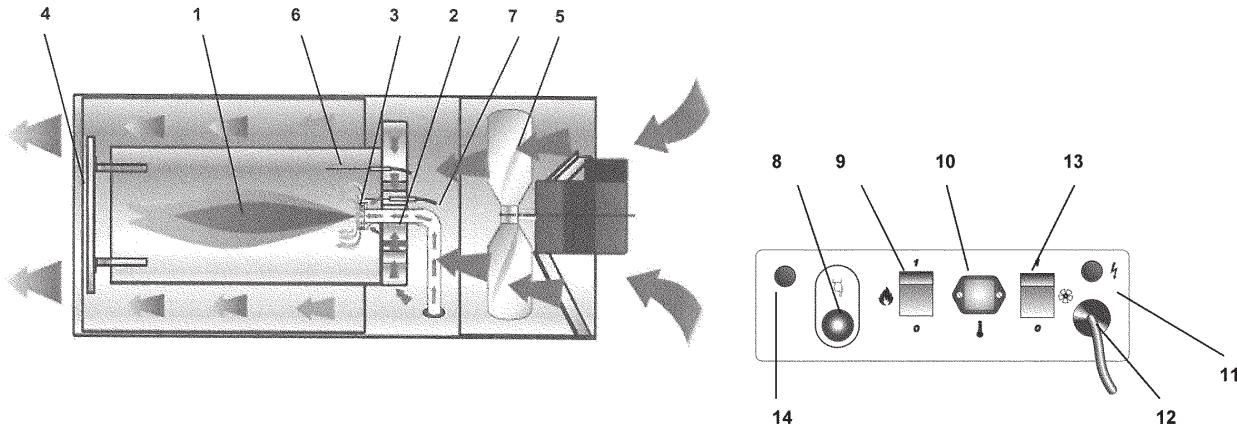

Fig. 1
- Make sure switch (Item 9, Fig. 1) is on "0";
- If the unit is operated manually (without any thermostat or any other control device) turn the switch (9) to position "1". The burner starts up, the combustion chamber heats up and then the fan starts; Note: Jumper plug must be installed.
- If the unit is operated with (DIGTHIDF) thermostat turn the switch (9) to position "1" and set the thermostat at the desired level: the heater will now start and stop automatically.
To access the burner, remove the flame guard panel (Item 4, Fig. 1) by removing the four screws and clean carefully inside the combustion chamber and the whole burner head: any debris shall be taken away.